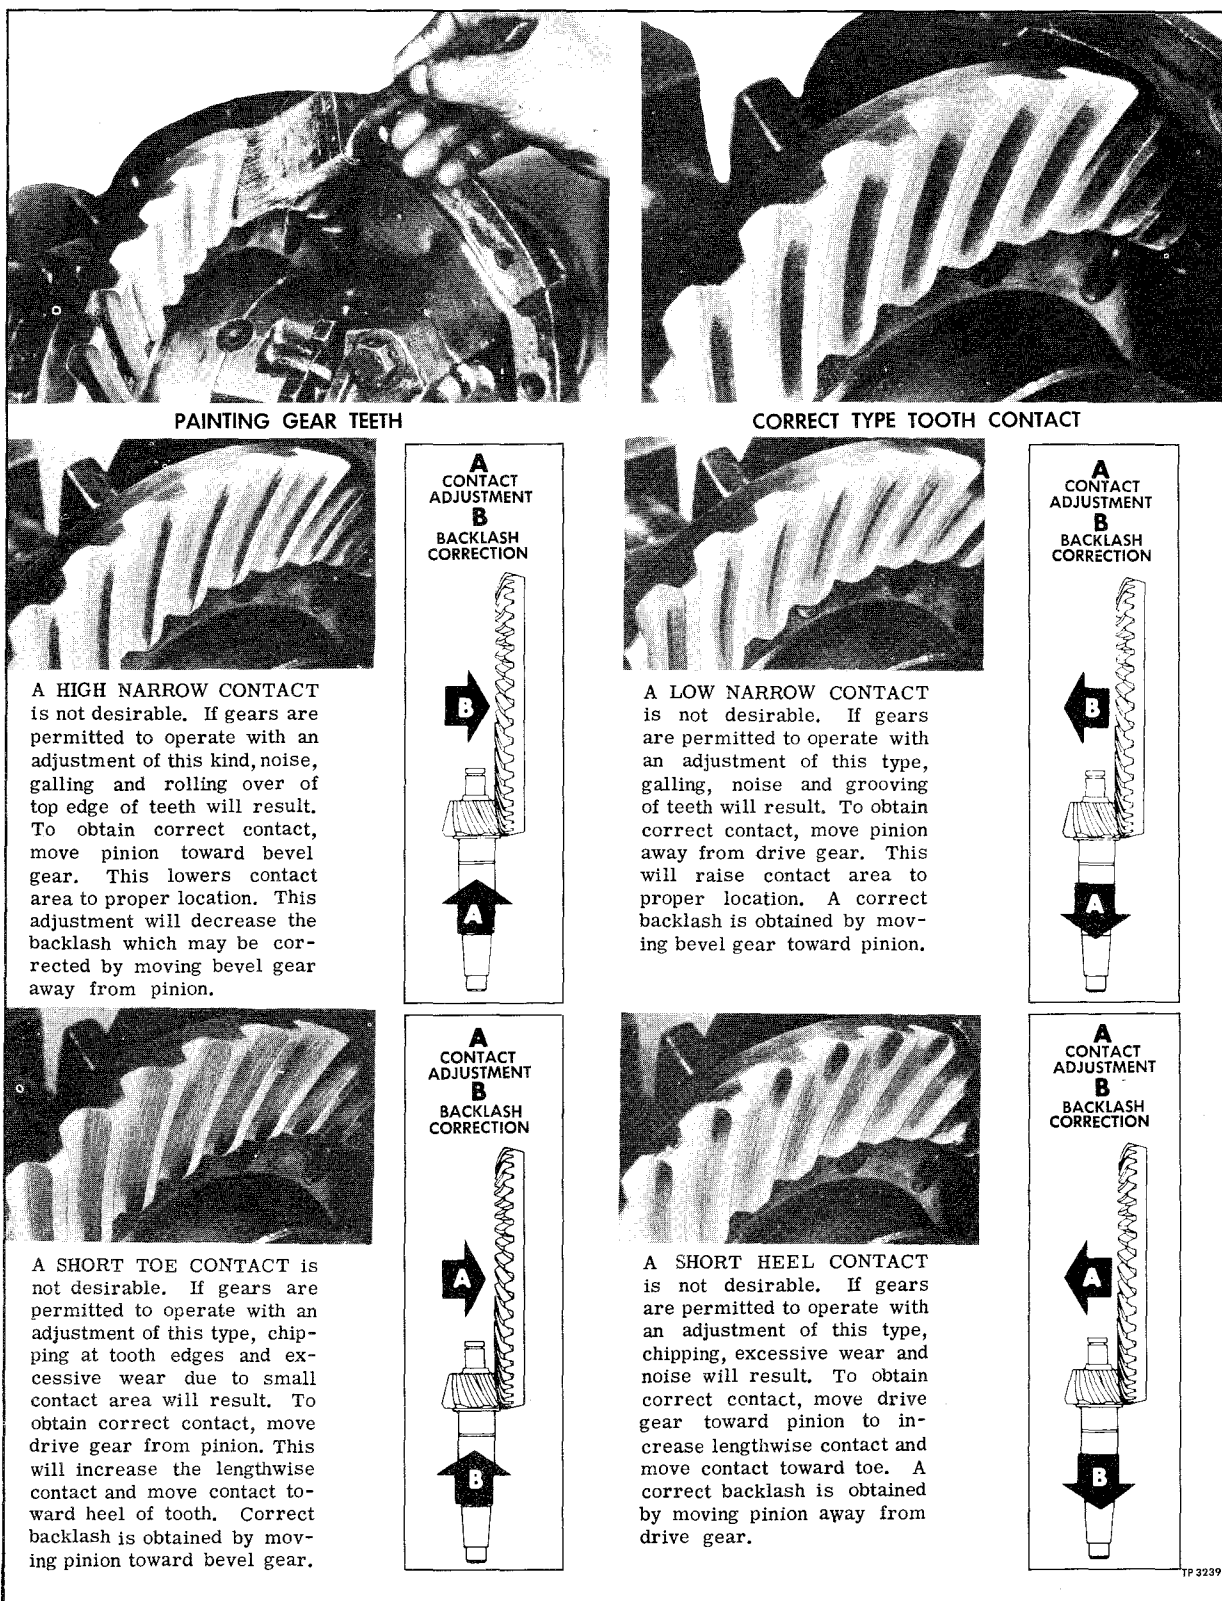

Figure 8—Gear Tooth Contact Chart
GEAR TOOTH CONTACT ADJUSTMENT (Fig. 8)
1. Paint at least ten teeth of bevel gear with a mixture of red lead or prussian blue and engine oil. Rotate gears through a few revolutions in both directions by hand. Refer to gear tooth contact charts, figure 8, for directions for making proper adjustments.
2. When satisfactory tooth contact and backlash has been obtained, tighten bearing cap bolts securely (300-350 ft. lbs.). Install adjusting ring locks (5) and secure bolts (6) with lock wire.